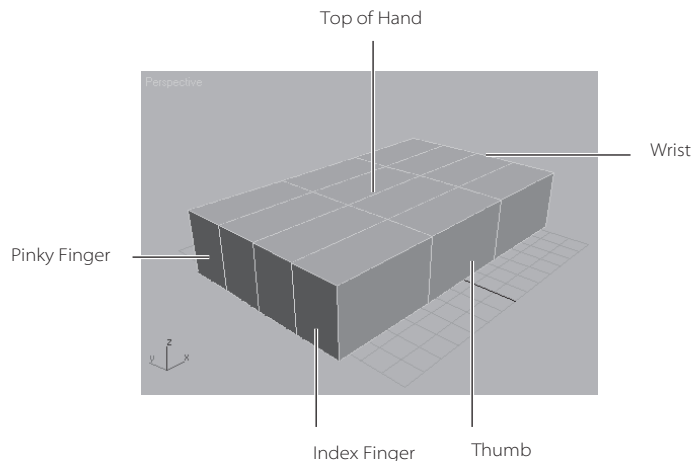

Figure 4.75
4. Look at the box and imagine that it is the palm of the hand. The polygons facing you in Figure 4.75 are going to be the fingers. The poly farthest from you will be the pinky finger, and the one nearest will be the index. This should help you get oriented.